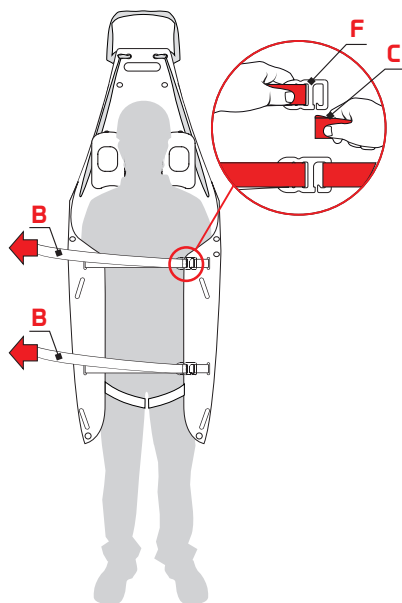

Fig.16
- Insert the buckles with hook (F) in the corresponding webbing loops (C) and tension the slings (B) to lift the side parts of the support surface (A) enough to contain the patient (fig. 16).